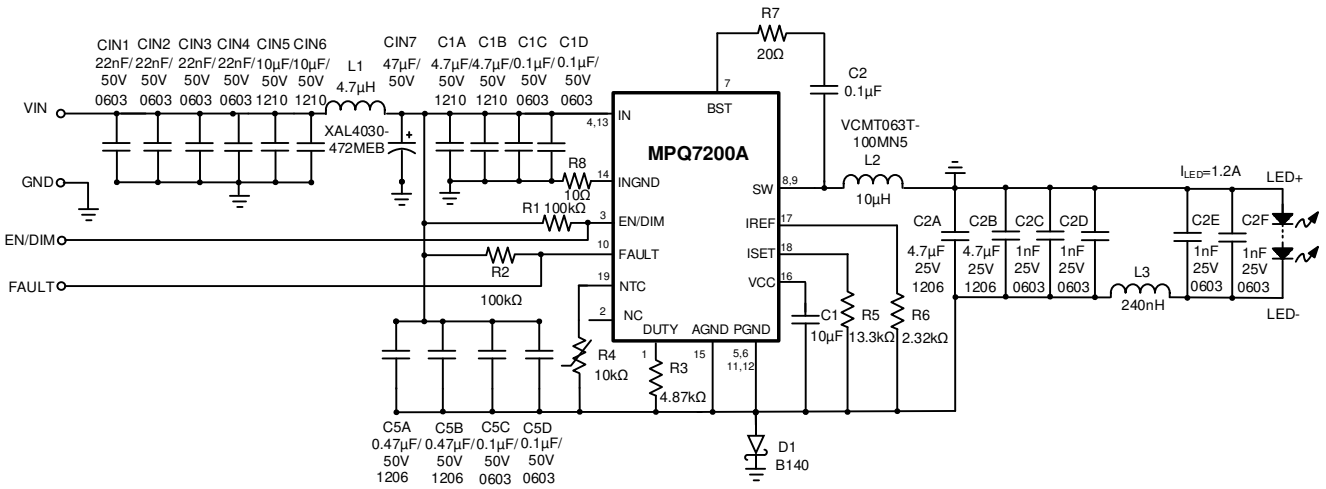

Figure 10: $I_{LED} = 1.2A$ Buck-boost Application Circuit (No Two-Step Dimming)
- 17) The recommended layout is based on Figure 10 on page 54.